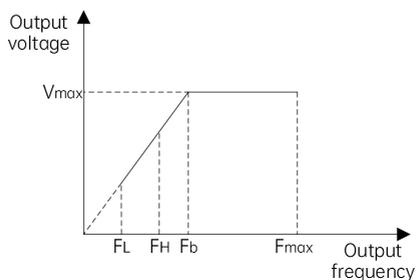

Fig. 7-6 Frequency limit parameter definition
The maximum output frequency is the highest frequency allowed by the drive, such as  $F_{max}$  in Fig. 7-6;
The upper limit frequency is the highest frequency allowed in operation set by the user, such as  $F_H$  in Fig. 7-6;
The lower limit frequency is the lowest frequency allowed in operation set by the user, such as  $F_L$  in Fig. 7-6;
$F_b$  in Fig. 7-6 is the basic operating frequency, defined as the minimum corresponding output frequency when the drive outputs the highest voltage in the V/F mode.
- (1) The maximum output frequency, upper limit frequency and lower limit frequency should be carefully set according to the actual nameplate parameters of the controlled motor and the needs of the operating conditions.
- (2) The limit range of the upper and lower frequency has no effect on the JOG operation, but it will affect the auto-tuning of the motor (parameter identification).
- (3) In addition to the upper limit frequency and lower limit frequency, the output frequency of the drive during operation is also limited by the startup frequency, start frequency of DC braking at stop, jump frequency and other parameters.
- (4) Fig. 7-6 shows the relationship between the maximum output frequency, upper limit frequency, and lower limit frequency. Note the value ranges during setting.
- (5) The upper and lower frequency limits are used to limit the actual output frequency to the motor. If the frequency reference is higher than the upper limit frequency, the device will run at the upper limit frequency; if the frequency reference is lower than the lower limit frequency, the device will run at the lower limit frequency; and if the frequency reference is lower than the startup frequency, the device will run at zero frequency.